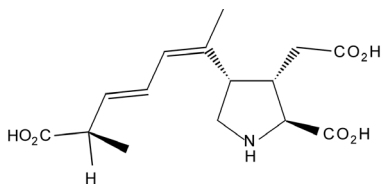

FIGURE 1:
Domoic acid (DA) and DA derivatives are water-soluble neurotoxins produced by a number of marine algae, in particular by the microalgae of the genus *Pseudo-nitzschia* spp (Fig. 1). Blooms of *Pseudo-nitzschia* may lead to the accumulation of DA in shellfish filter feeders and other marine species [Scholin *et al.*, 2000]. Ingestion of DA contaminated shellfish may lead to amnesic shellfish poisoning (ASP) by affecting the central nervous system, and has caused the death of both animal and human consumers in severe cases [Wright *et al.*, 1989]. The European commission Directive 2002/226/EC implemented a maximum permitted level (MPL) of 20 mg DA equivalents/kg shellfish intended for human consumption. This MPL is adopted by most food safety authorities.